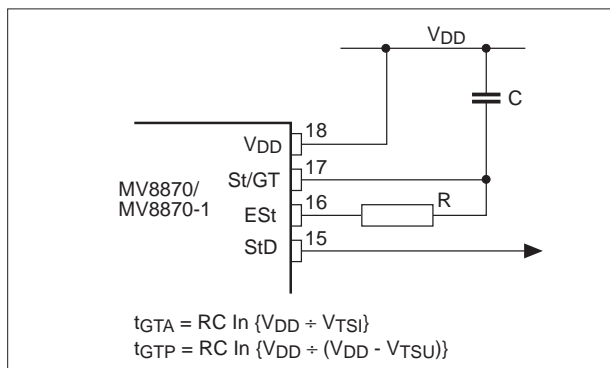

Figure 4: Basic Steering Circuit
Before registration of a decoded tone-pair, the receiver checks for a valid signal duration (referred to as (character recognition condition)). This check is performed by an external RC time constant driven by ESt. A logic high on ESt causes the voltage at the SVGT pin (V_{SVGT}) to rise as the capacitor discharges (see Figs.4 and 5).
In many situations not requiring separate selection of tone duration and interdigit pause, the simple steering circuit shown in Fig.7 is applicable. Component values are chosen according to the formulae (see Figs. 4, 8a and 8b):-
- 3. t_{GTP} and t_{GTA} are adjustable via external RC network at pins 16 and 17 (see Fig. 4).